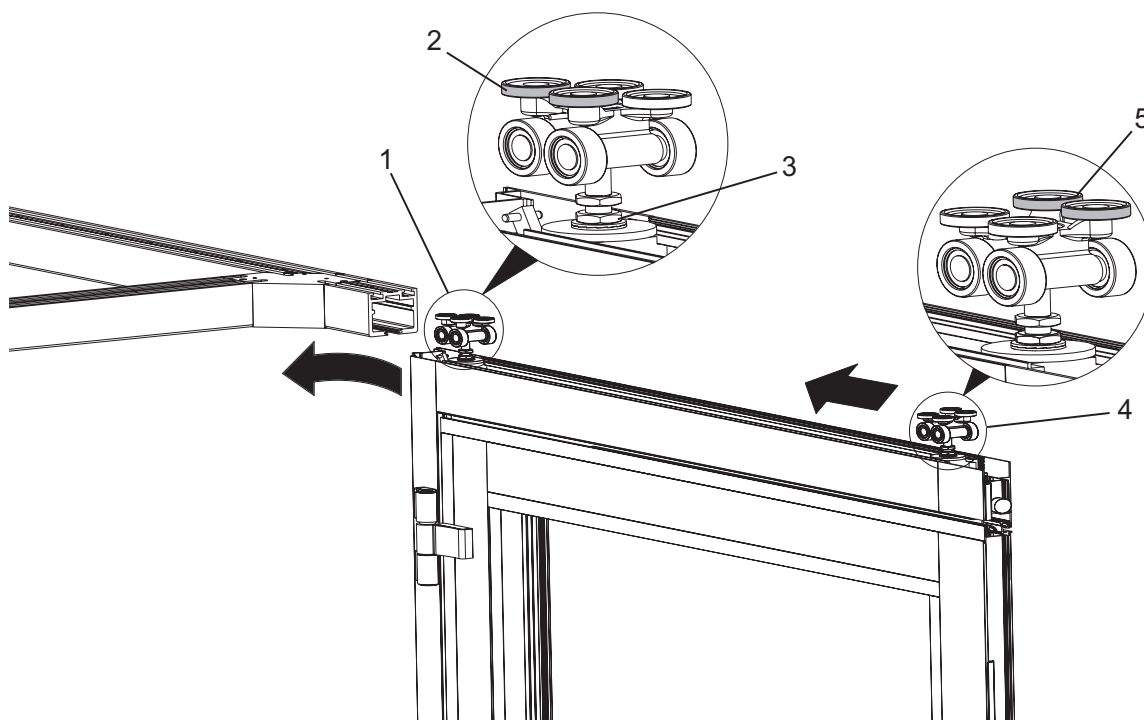
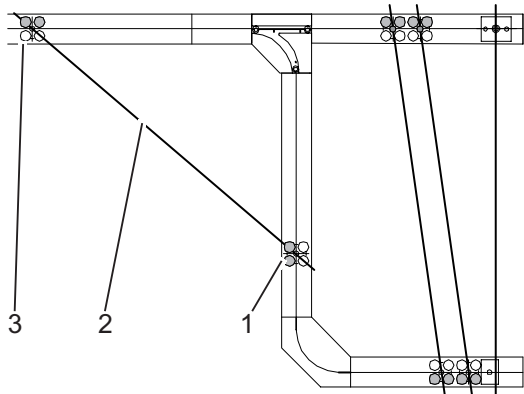
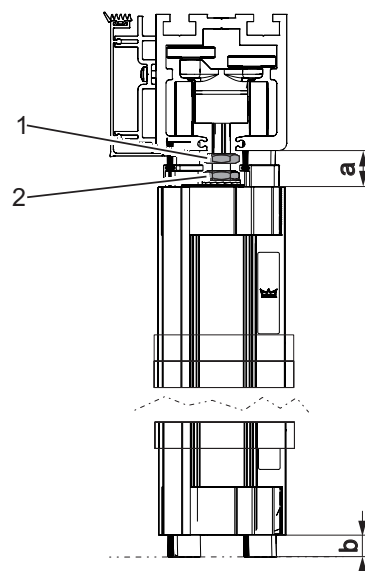
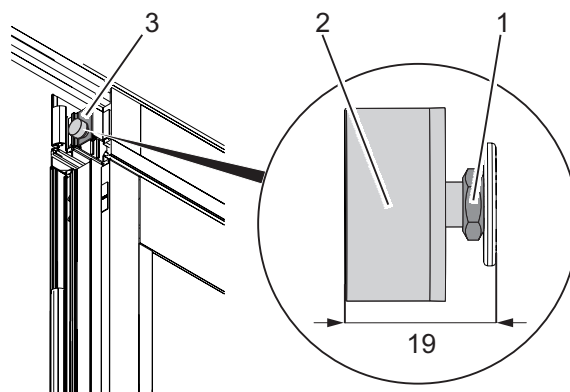

Fig. 15: Adjusting the running direction of the rollers.
Fig. 16: Example for a stacking arrangement (top view)
Fig. 19: Height-alignment of the panels
Fig. 20: Lateral alignment of the panels
3. Mount the panel (Fig. 16/2) in the specified order (see separately supplied system drawing) with the roller into the tracks.
The higher lying rollers define the running direction. In the exemplary Fig. 15 and Fig. 16, the front roller (Fig. 15/1 and Fig. 16/1) runs into the branch. The higher lying rollers (Fig. 19/2) are on the inner track side. In case of the rear roller (Fig. 19/4 and Fig. 20/3), the rollers (Fig. 19/5) are on the inner side of the track. The roller runs straight in the stacking area.
1. On both rollers, loosen the nut (Fig. 19/2) and adjust the screw at the hexagonal (Fig. 19/1) until the height distance to the floor is 10 mm (dimension b). Pay attention to the upper dimension a (20 ± 4 mm).
The lateral distance of the panels is adjusted via rubber buffer (Fig. 20/2). The lateral distance between two panels (without brushes) at delivery is 5 ± 2 mm. In order to achieve this distance, there is a 19 mm distance between the upper edge of the rubber buffer (Fig. 20/2) and the plastic web (Fig. 20/3). If necessary, readjust the lateral distance.
2. Adjust the rubber buffer via the nut (Fig. 20/1) until there is a distance of 19 mm between the upper edge and the plastic web (Fig. 20/3).